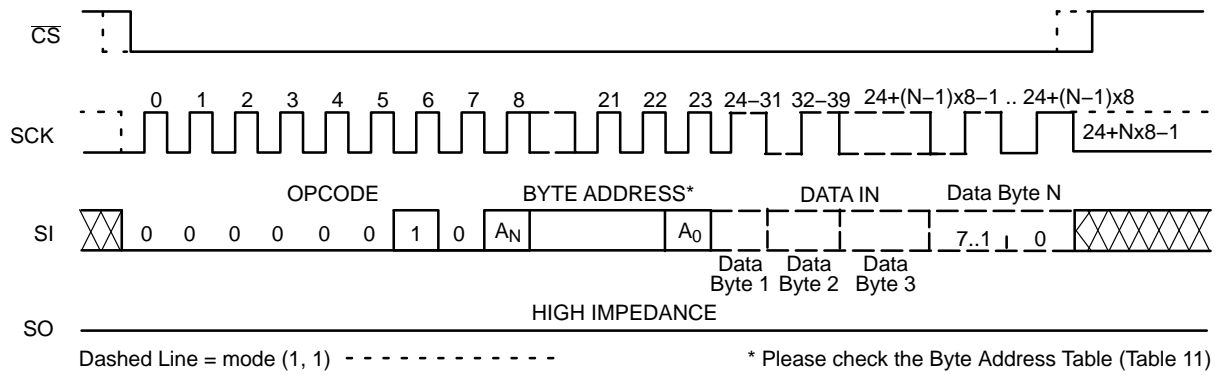

Figure 6. Page WRITE Timing
After sending the first data byte to the NV25xxx, the host may continue sending data, up to a total of 32 bytes, according to timing shown in Figure 6. After each data byte, the lower order address bits are automatically incremented, while the higher order address bits (page address) remain unchanged. If during this process the end of page is exceeded, then loading will "roll over" to the first byte in the
The additional 32-byte Identification Page (IP) can be written with user data using the same Write commands sequence as used for Page Write to the main memory array (Figure 6). **The IPL bit from the Status Register must be set (IPL = 1) using the WRSR instruction, before attempting to write to the IP.** The address bits [A15:A5] are Don't Care and the [A4:A0] bits define the byte address within the Identification Page. In addition, the Byte Address must point to a location outside the protected area defined by the BP1, BP0 bits from the Status Register. When the full memory array is write protected (BP1, BP0 = 1,1), the write instruction to the IP is not accepted and not executed. Also, the write to the IP is not accepted if the LIP bit from the Status Register is set to 1 (the page is locked in Read-only mode).